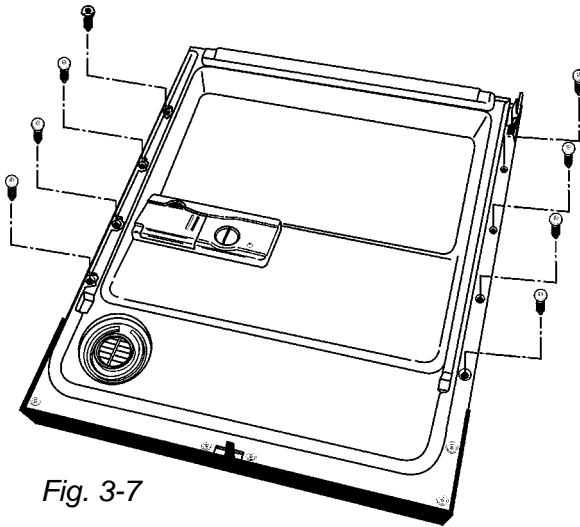

Fig. 3-7
1. Remove the eight (8) screws securing the outer door panel to the dishwasher door frame. (Fig. 3-7) Remove the outer door panel from the door frame.